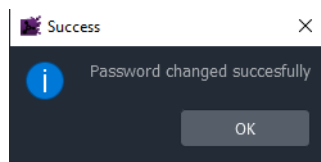

Fig. 4-19: Password Changed Successfully Message
- 4 Click **OK** to change the password or click **Cancel** to abandon the change. If a new password has been set, a "Password changed successfully" message is displayed; click **OK**. See Figure 4-19.